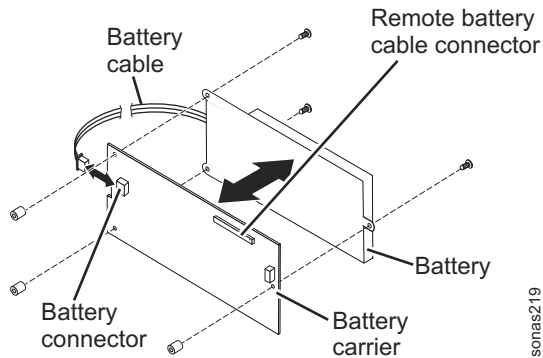

Figure 35. Removing the battery from the battery carrier
**Note:** If your battery and battery carrier are attached with screws instead of a locking-clip mechanism, remove the three screws to remove the battery from the battery carrier. See Figure 35 on page 119.